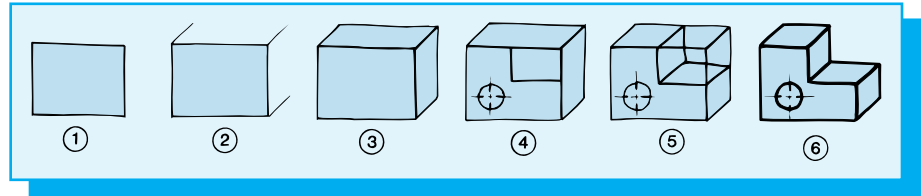

**Figure 3-8**
**Isometric** sketches are prepared by establishing a vertical corner line and projecting receding lines  $30^\circ$  (**Fig. 3-8**). As with multiview sketches, always block in the entire outline of the object before cutting corners or adding surface details such as holes and projections.